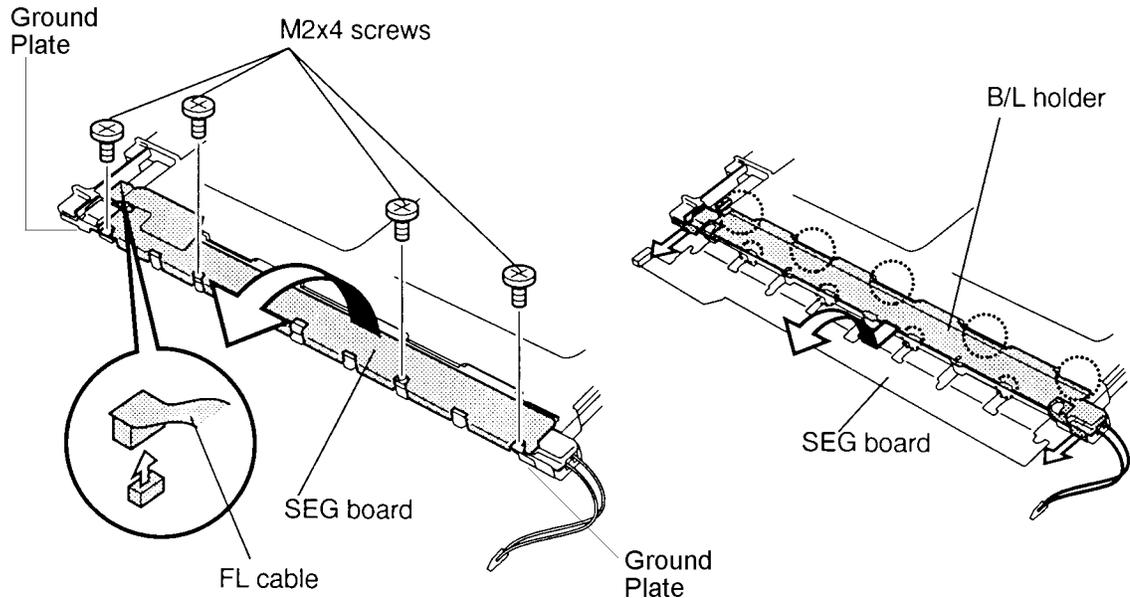

Figure 4-26 Removing screws
6. Gently grip the **FL cable's connector** with a pair of needle nose pliers and disconnect the **FL cable**. Be very careful not to damage the connector and cable (figure 4-26).
7. Remove **four M2x4 screws** securing the **SEG board** and rotate the board out so that it lies flat. Be sure no dust or debris contaminates the unit (figure 4-26).
8. Remove the **two ground plates** at each end of the **SEG board** (figure 4-26).